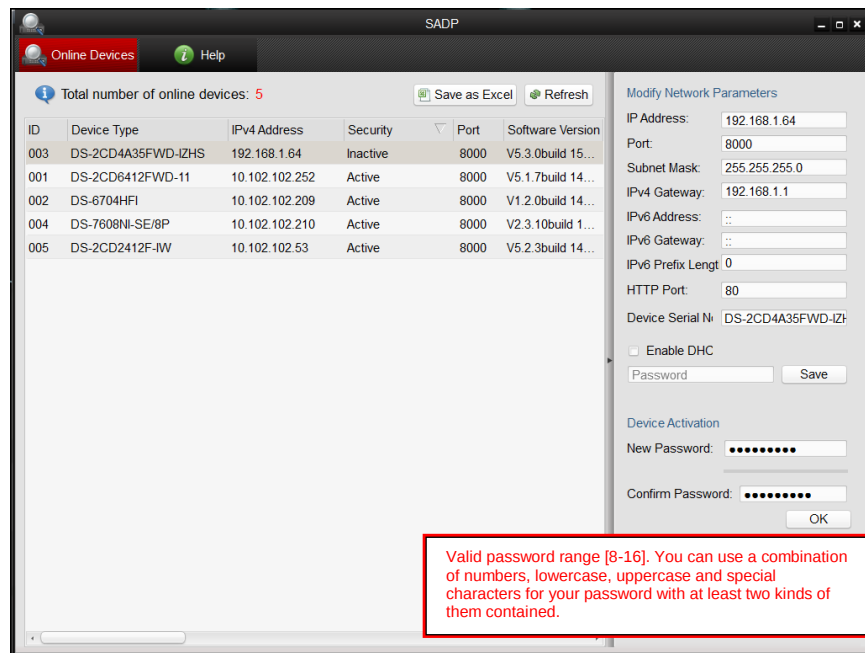
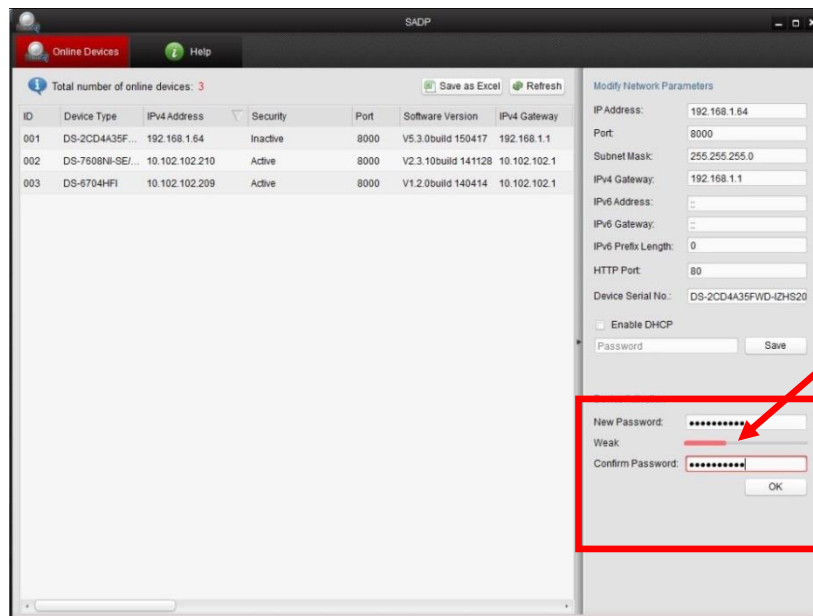
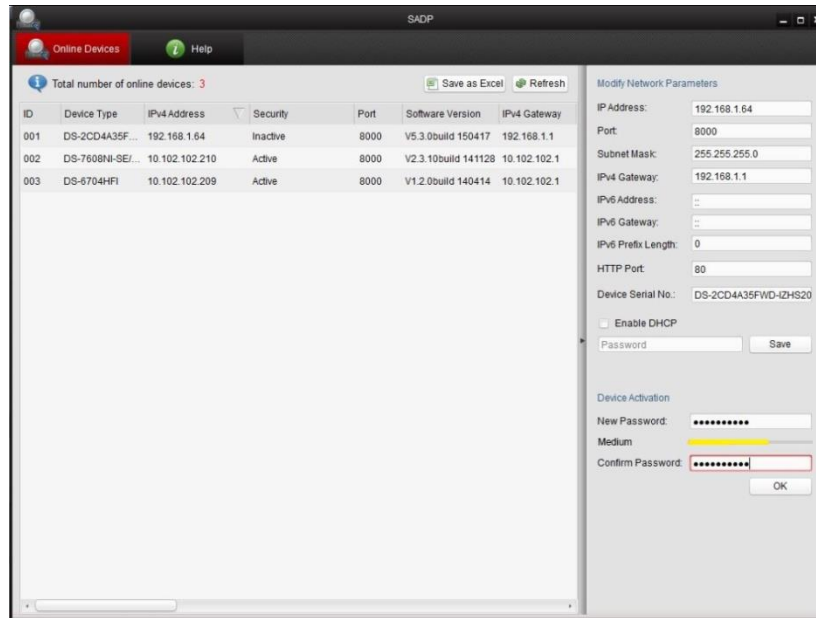
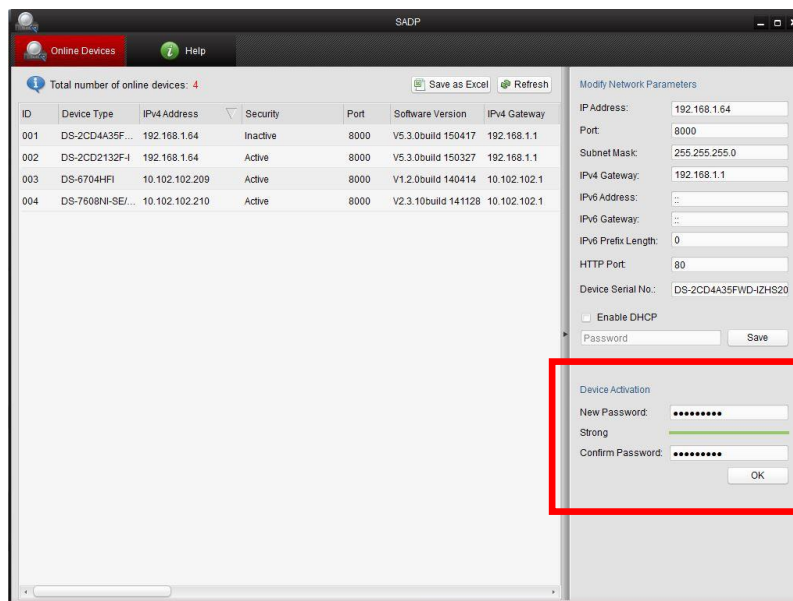

Figure 24 “Risky” Unacceptable Password Warning Message
Figure 25 Password Field with Weak Strength Password
Figure 26 Password Field with Medium Strength Password
Figure 27 Password Field with Strong Strength Bar
- Activation will not be allowed unless the password is of acceptable strength (**Figure 25, Figure 26, Figure 27**). If the password is unacceptable strength (“Risky,” **Figure 9**), a warning box will be displayed (**Figure 10**).
- Bar length indicates strength level (**Figure 24**).
- Activation will be allowed if the password is of acceptable strength (**Figures 26, 27, 28**). A white checkmark will appear in a green circle to the right of the password field.
- If the password is unacceptable strength ("Risky," **Figure 24**), a white X will appear in a red circle to the right of the password field and a warning dialog box will be displayed (**Figure 25**) explaining the requirements for an acceptable password.